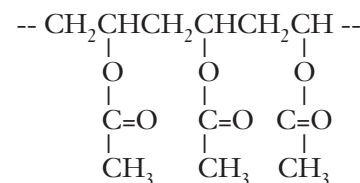

Figure 1. Polyvinyl acetate
Glue is a solution of a polymer in water. Adding sodium borate to glue produces a new type of polymer, which has been called slime or *Gluep*. Gluep is relatively easy to prepare and has some unique properties. It is a gel-like substance with properties that are intermediate between those of a liquid and a solid. Thus, the polymer gel may flow and take the shape of its container, but it can also be molded into shapes and may be elastic, like rubber. The main polymer ingredient in white glue is polyvinyl acetate or PVAC (see Figure 1).
- a. Roll the magnetic slim into a ball and set it on a table. Since the slime is quite viscous, it will slowly flatten into a thick “puddle.” Next bring a cow magnet near the puddle of slime from the top. A small peak will form as the iron filings in the slime are attracted to the strong magnet (see Figure 1). Once a peak is formed, move the magnet to form another.